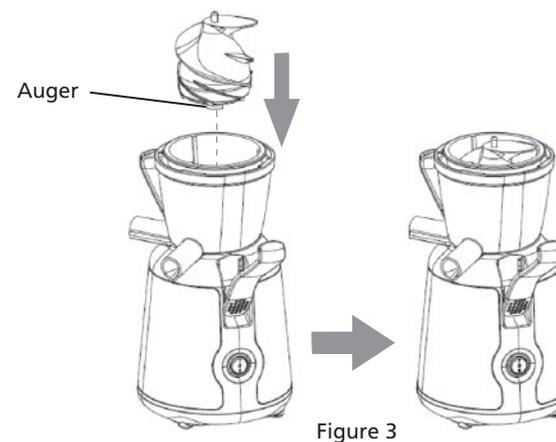

Figure 3
3. Insert the shaft of the auger onto the shaft of the motor base, above the seal, see figure 3. Twist the auger to ensure that the shaft of the motor base slots perfectly into the hexagonal opening on the shaft of the auger.